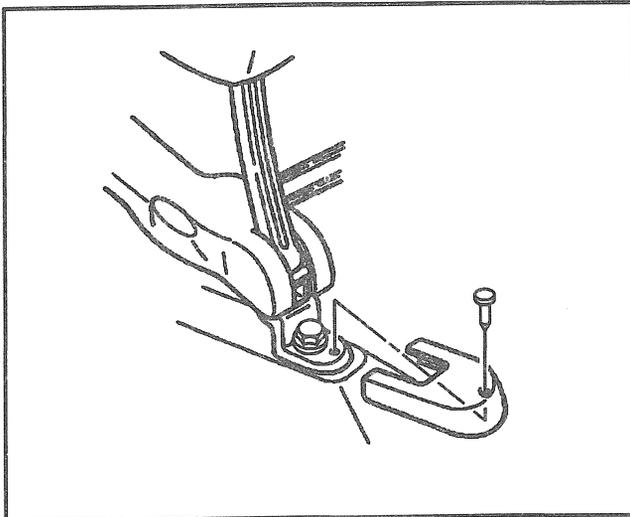

Figure 11—Seat Retaining Bolt and Components (Utility)
2. Seat retaining bolts (Figure 11).